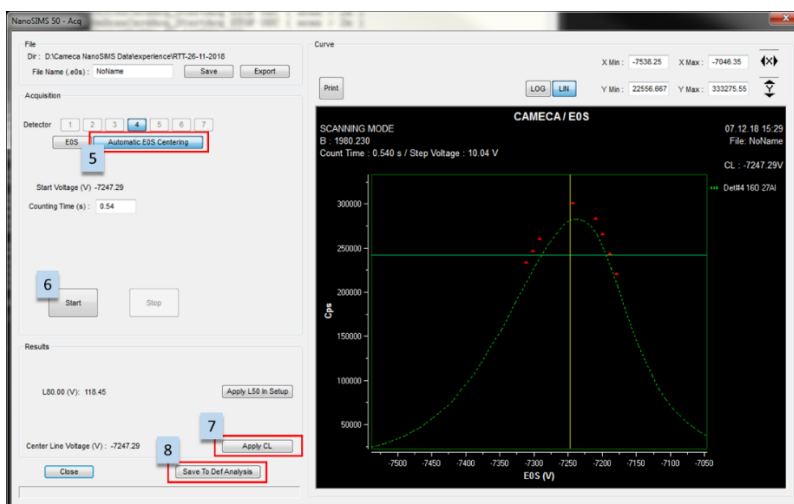

Figure 406: automatic EOS centering
- c. Activate the automated EOS centering for the upcoming acquisition by selecting **"Automatic EOS Centering"** (step 5 in Figure 406). Now that the program has the reference CL and EOS curve width (L80) it can "reproduce" the centering automatically as follow: